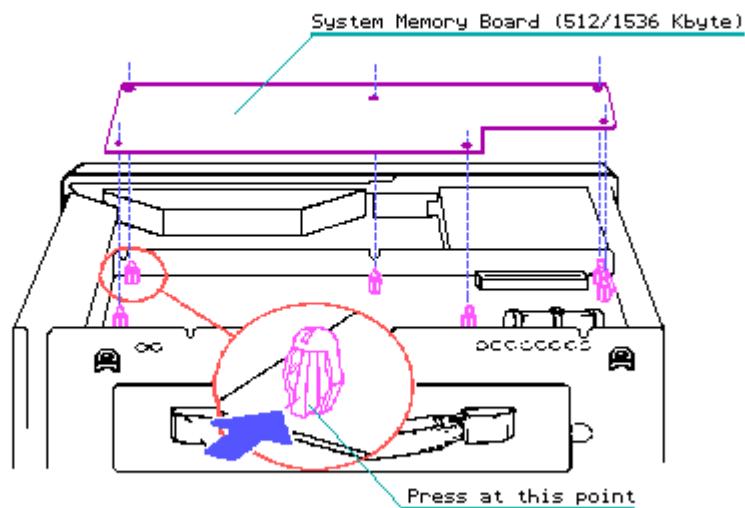

Figure 7-46. Disconnecting and Removing the 512/1536 Kbyte System Memory Board
4. Lift the disconnected memory board from the system board (Figure 7-46).